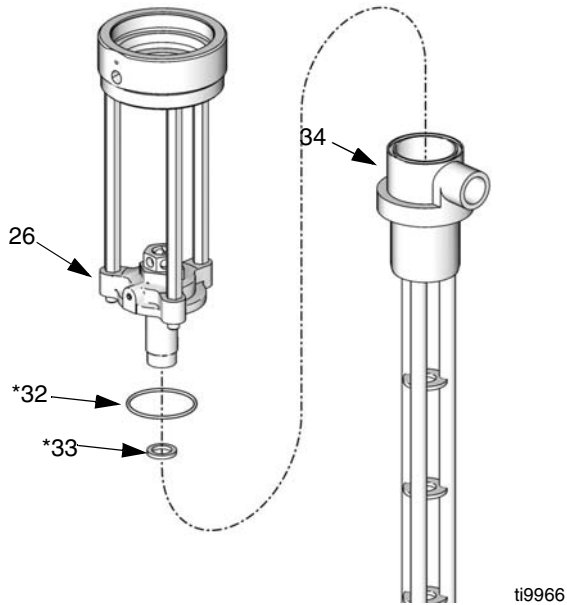

FIG. 24
- Unscrew mounting flange (26) from pump body (34). Remove o-ring (32*) and PTFE gasket (33*) from pump body (34). Inspect all parts for damage. See FIG. 24.